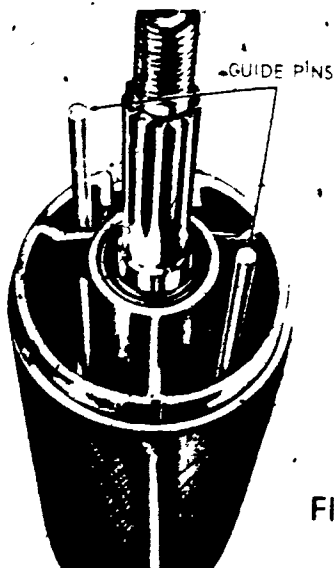

FIGURE 2
- H. Thread guide pins into the retainer plate (Figure 2)